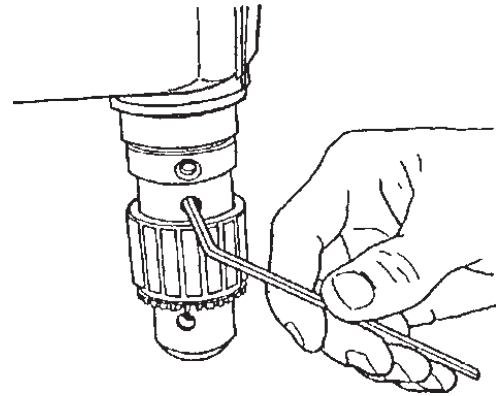

Figure B-52
10. To install the drill chuck, mount the chuck on the spindle and align the chuck's set screw with the spindle knob's set screw, as shown in Figure B-52. This allows the chuck's set screw to set on the flat part of the spindle. Use a 5/32" Allen wrench to securely tighten the drill chuck's set screw.